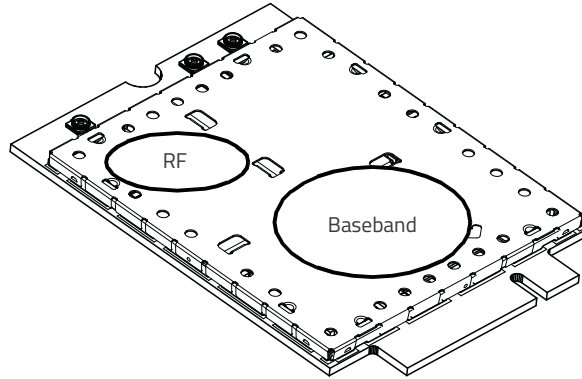

Figure 6-4: Shield Locations (Top View)
- Monitor temperature at all shield locations. Attach thermocouples to the areas indicated in Figure 6-4 on page 57 (RF, Baseband).